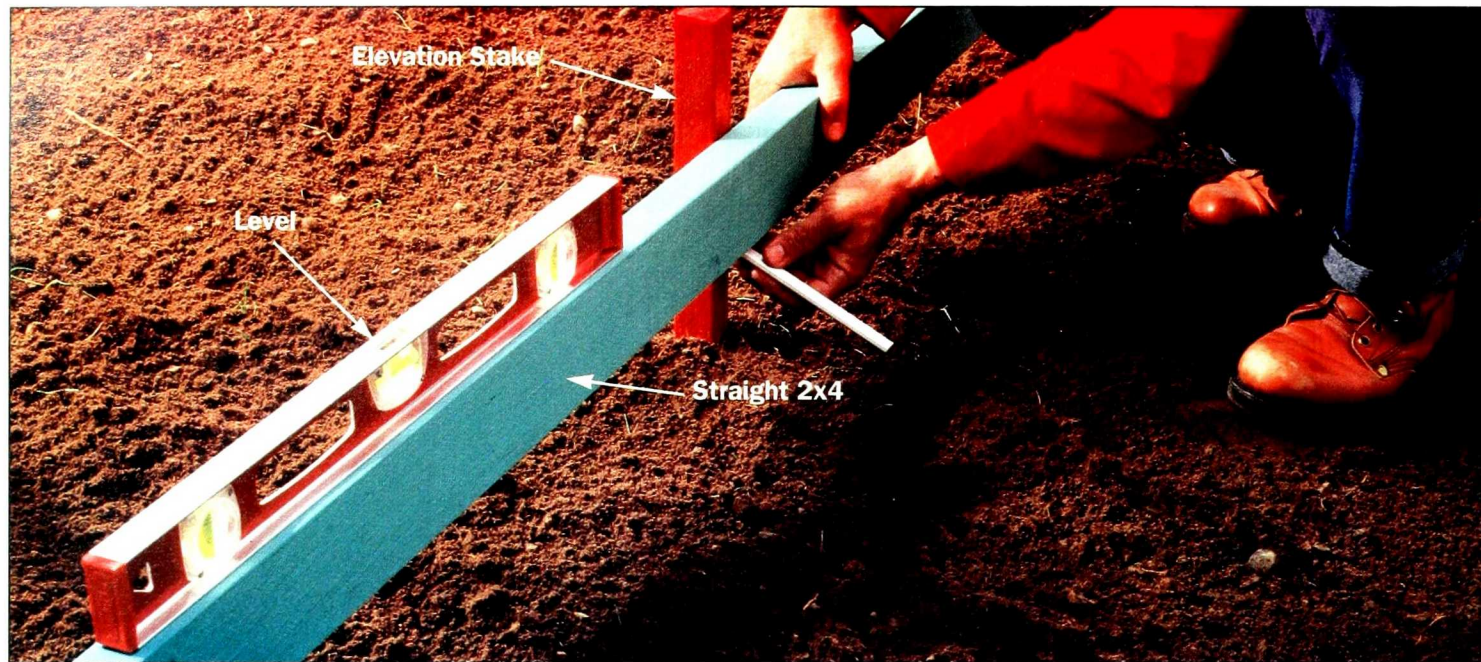

Figure 3: Use a level, a 2x4, and stakes to determine the slope of the patio. A slope of 1 inch per 4 to 8 feet away from house is
- Place one end of a 2x4 at the bottom of the stairway or an inch below the door threshold, then level across to stakes driven at the patio perimeter and make a mark (Figure 3).